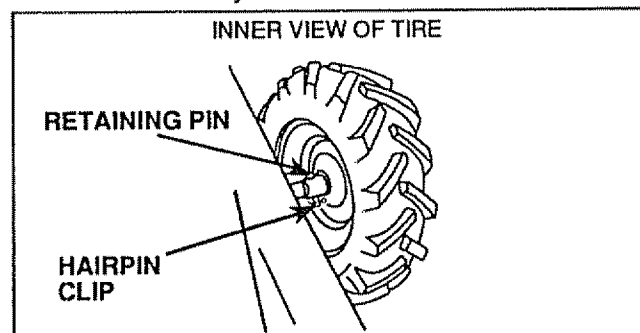

FIGURE 20
- Replace Retainer Pin and Hairpin Clip on inside of Wheel (Fig. 20) and remove blocks.